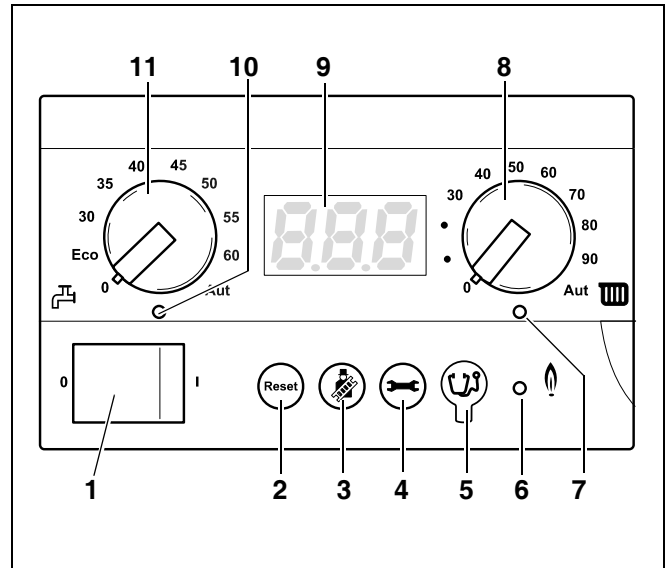

fig. 7 BC10 basic controller
- Switch on the mains switch (fig. 7, **item 1**) on the BC10 (position "1").
- Press the "Service" button (fig. 7, **item 4**) until the system pressure ("P1.5") is shown in the display (fig. 7, **item 9**). Also see section 6.1.1, "Normal Operation menu", page 18.